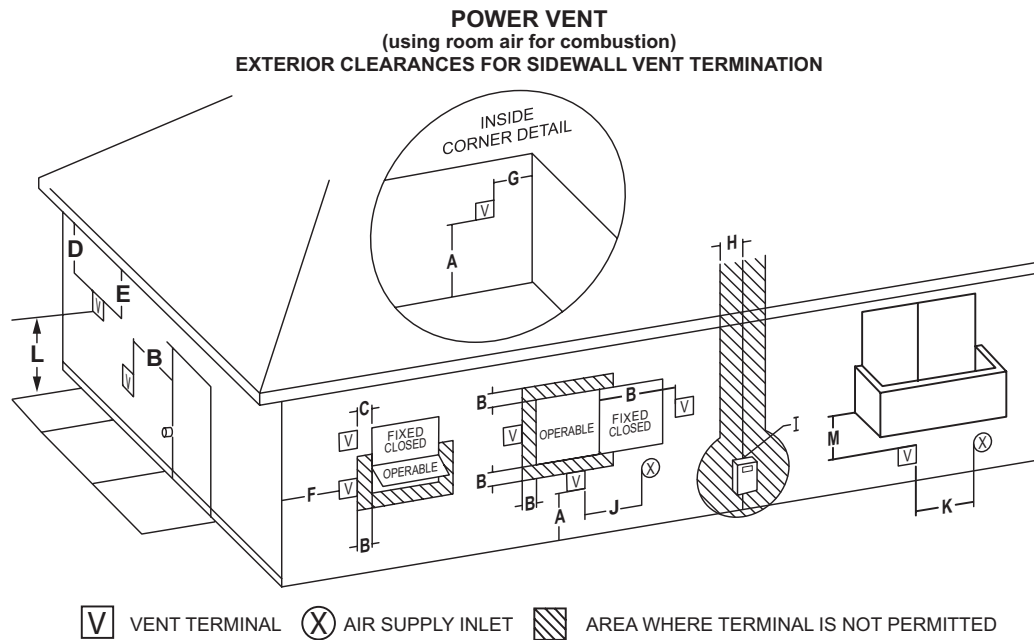
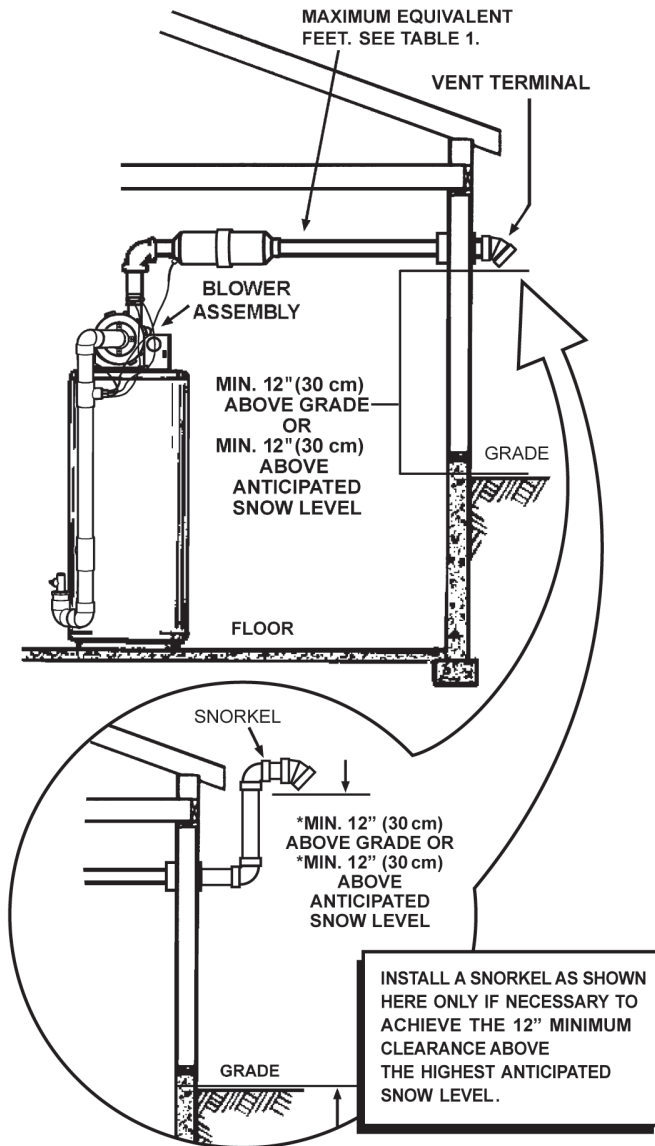

FIGURE 15.
FIGURE 20
The first step is to determine where the vent pipe will terminate. See Figures 15, 20 and 21. The vent may terminate through a sidewall as shown in Figure 20 or through the roof as shown in Figure 21.
in Figure 15.
If necessary to achieve the 12" minimum clearance above the highest anticipated snow level, install a snorkel as shown in bottom portion of Figure 20.
1. Vent Termination must extend a minimum of 12 inches (30 cm) above roof or 12 inches (30 cm) above the anticipated snow level to prevent blockage of the vent termination, as shown in Figures 20 and 21.